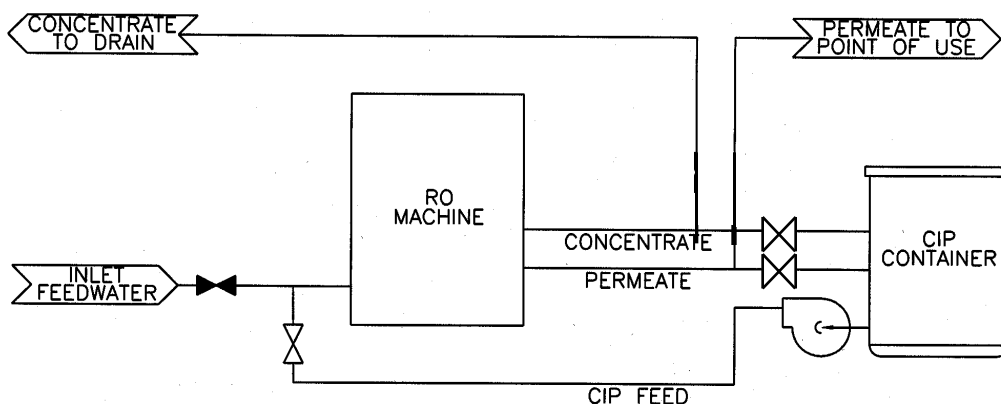

Figure 2.2
4. Disconnect and route the inlet, permeate, concentrate lines from their service locations to the CIP container (Figure 2.2 E2/EZ2-Series Closed Loop Membrane Element Cleaning).
5. Connect the CIP feed line to the E2/EZ2-Series machine inlet feed water port (Figure 2.2, E2/EZ2-Series Closed Loop Membrane Element Cleaning).